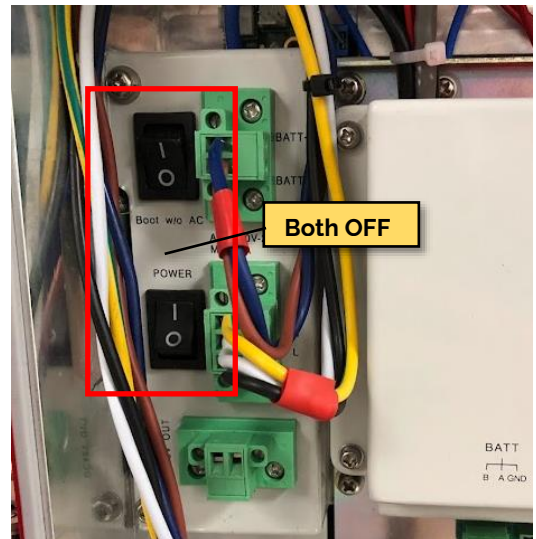

Figure 5: Complex Cable
- Make sure both AC (POWER) switch and DC (Boot w/o AC) switch are OFF in the BDA, as Figure 5 shows.